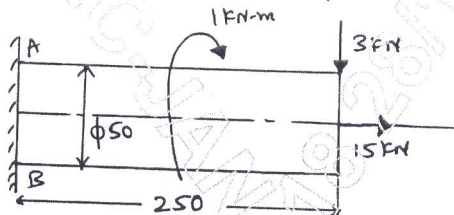

Fig.Q1(b) (12 Marks)
b. A circular rod of diameter 50 mm is subjected to loads as shown in Fig.Q1(b). Determine the nature and magnitude of stresses at the critical points.